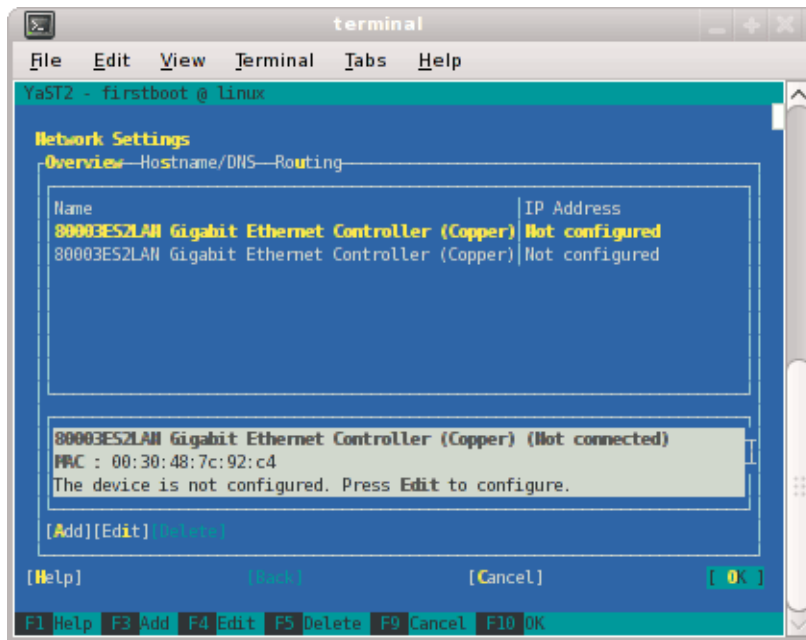

Figure 2-5 Network Settings Screen
8. From the **Network Settings** screen, as shown in Figure 2-5 on page 40, configure the first card under **Name** to establish the public network (sometimes called the house network) connection to your SGI Altix ICE system. To do this, highlight the first card and select **Edit**.
Note: In SLES11, this screen is also where we will come back to in order to set up things like the default route and DNS. You can see all of those menu choices just to the right of **Overview** in Figure 2-5 on page 40.